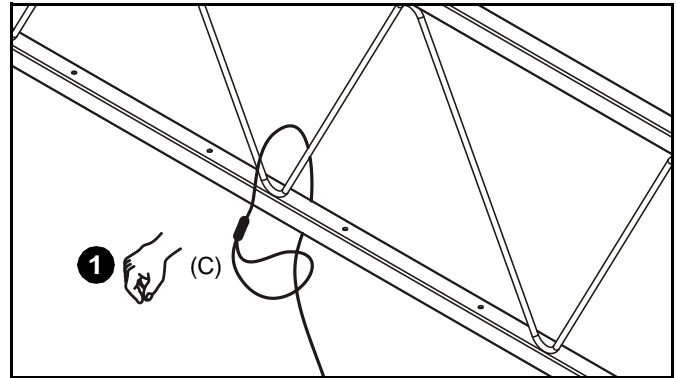

Figure 5
1. Route end of cable (C) over truss at marked cable anchor support location and then through cable loop (See Figure 5). Repeat for 3 remaining support locations.